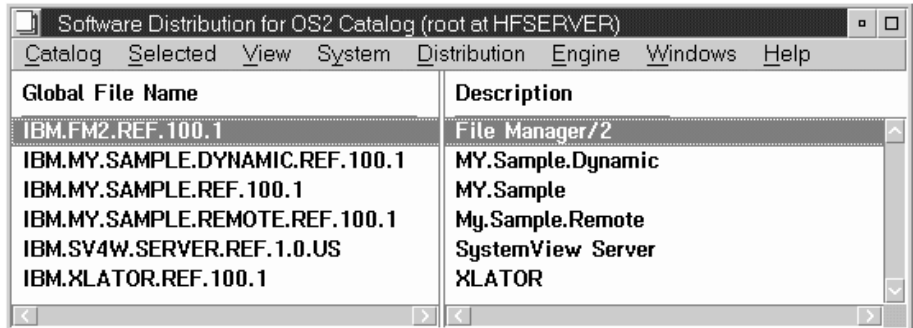

Figure 48. TME 10 Software Distribution for OS/2 Catalog window
- a From the TME 10 Software Distribution for OS/2 Server window, open the TME 10 Software Distribution for OS/2 Catalog window, as shown in Figure 48 on page 148.